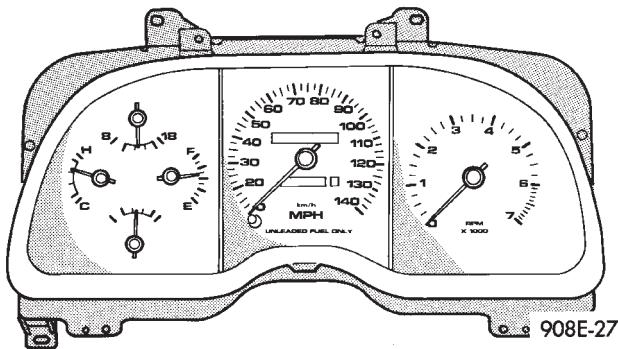

Fig. 2 Electronic Instrument Cluster
- Speedometer and tachometer readings as well as all warning indicators. The electronic cluster is easily distinguished from the conventional cluster by its digital and linear display (Fig. 2.)